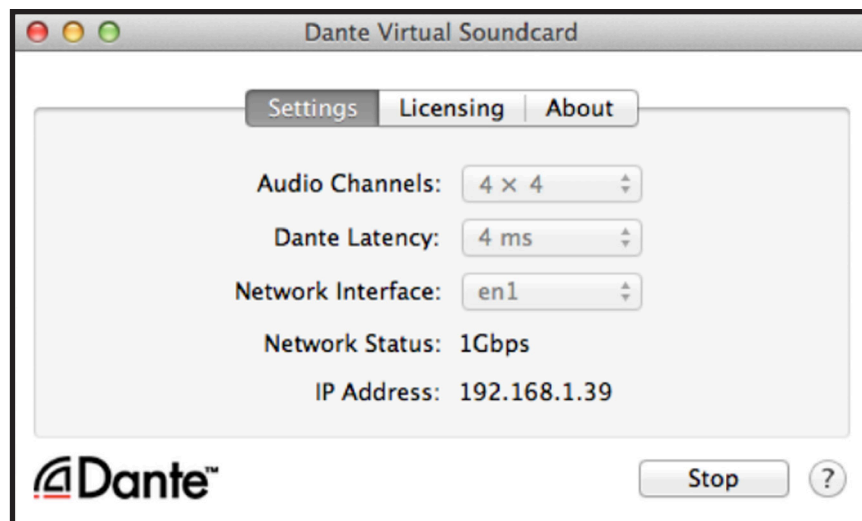

Figure 7
4. Open “Dante Virtual Soundcard” (Figure 7)